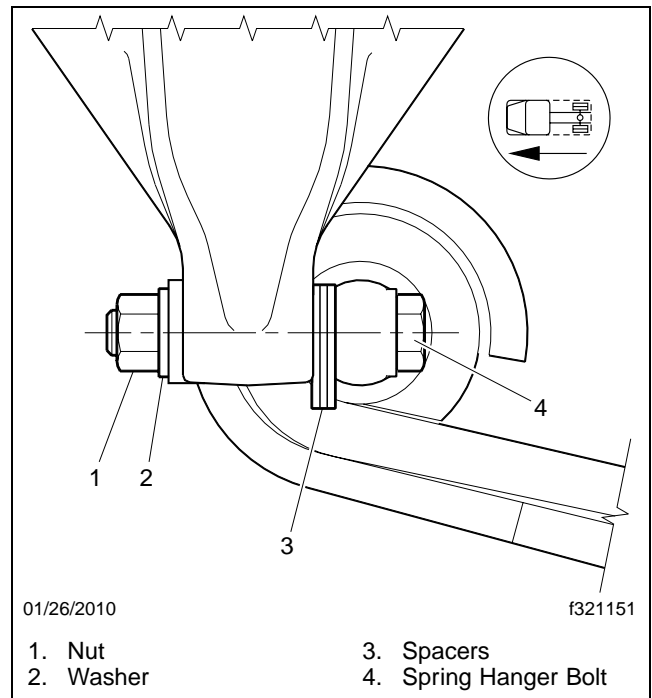

Fig. 2, Spring Hanger Bolt Assembly
2. For vehicles in FL567B or FL567C with missing spring hanger bolts, replace the missing and/or damaged parts. Tighten 175 to 221 lbf·ft (237 to 300 N·m). See **Fig. 2**.